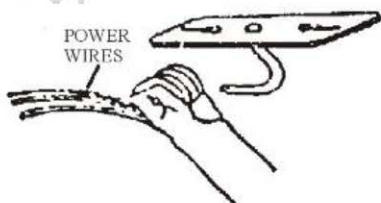

Fig.3
1. Beung very careful not to damage wiring lift up fan and engage rubber roller at approximate angle 30° over hook as shown in Fig.3